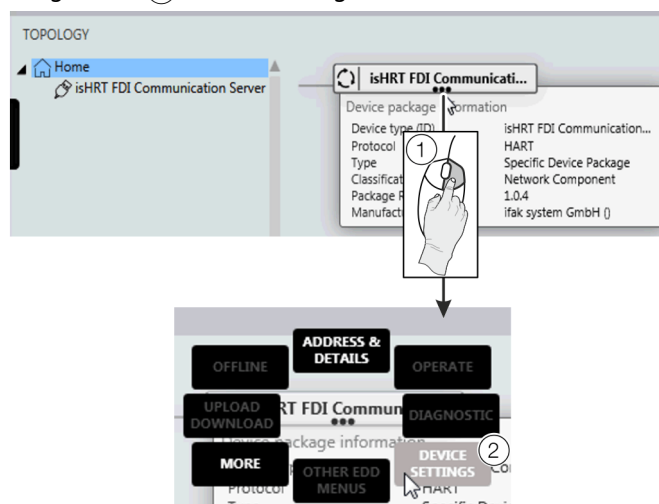

Figure 2: Select FIM – 'Device Settings'
6. Right-click ① as shown in Figure 2.
7. Select 'DEVICE SETTINGS' ② as shown in Figure 2.